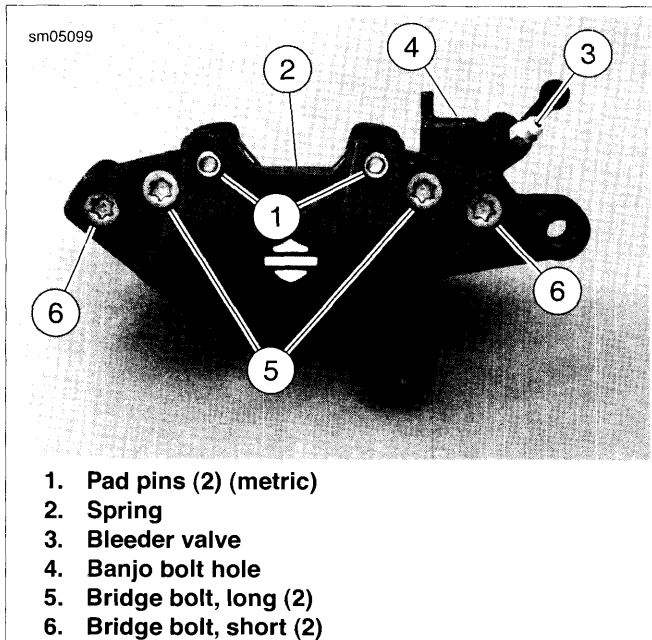
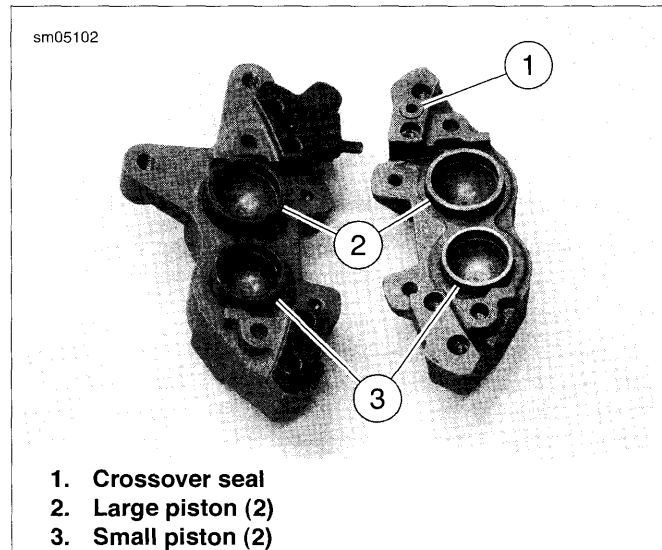

Figure 2-74. Preparing Caliper for Piston Removal
Figure 2-76. Caliper Housings and Pistons
1. See Figure 2-74. Remove brake pad pins (1) and anti-rattle spring (2).
2. Slide one brake pad out of caliper assembly. Do not remove bleeder valve (3) at this time.
3. With one brake pad in the caliper, loosely install brake pad pins (1) to hold brake pad in place.
- See Figure 2-74. Gently apply low pressure compressed air to banjo bolt hole (4) to force pistons from caliper bores.
- See Figure 2-74. If necessary, remove bleeder valve (3).
3. See Figure 2-76. Carefully insert pistons (2, 3) by hand, nose radius first, into caliper bores. If installation shows resistance, remove piston(s) and check that seals are properly installed and fully seated in grooves. Press pistons completely into bores.
4. Install **new** crossover seal (1).
5. See Figure 2-74. Apply a drop of LOCTITE 569 Sealant to the threads of the bridge bolts (5, 6). Assemble caliper housings and secure with bridge bolts. Ensure the bridge bolts are in the correct locations based on length. Tighten bridge bolts to 12-18 ft-lbs (16.9-24.5 Nm).